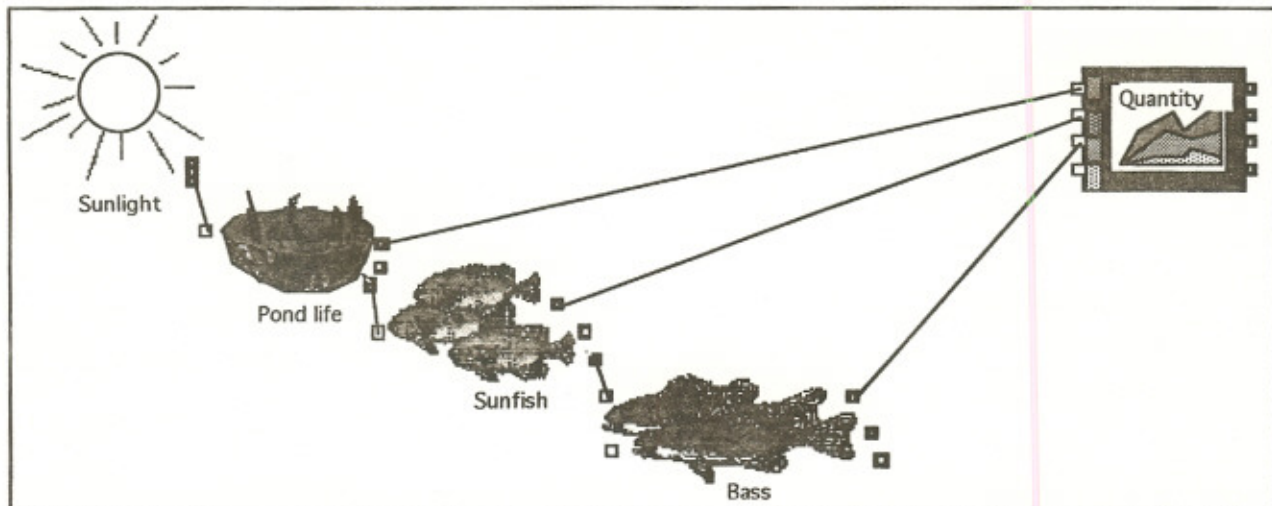

Figure 13. Picture icon ecosystem with sun, pond life, sunfish, and bass.
- Pull down the **Bass** block from the library and connect it into your model as shown below (Figure 13).
The screen shown in Figure 13 is a **food chain**. The energy flows from left to right, becoming transformed to a new, more valuable form as it goes from sun to bass. This change from many small units of sunlight to less of small life, fewer of sunfish and a very few large units of bass is an example of hierarchy. Hierarchy is the organization found in all systems: many small units support